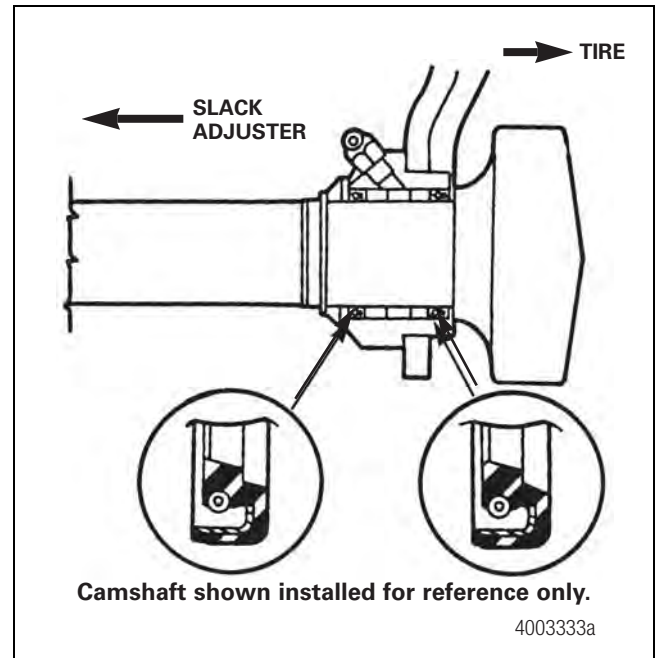

Figure 11.36
- B. For metal bushings, install two grease seals. Verify that the seal lips face toward the slack adjuster and that the seal bodies press against the metal bushing. Figure 11.36.